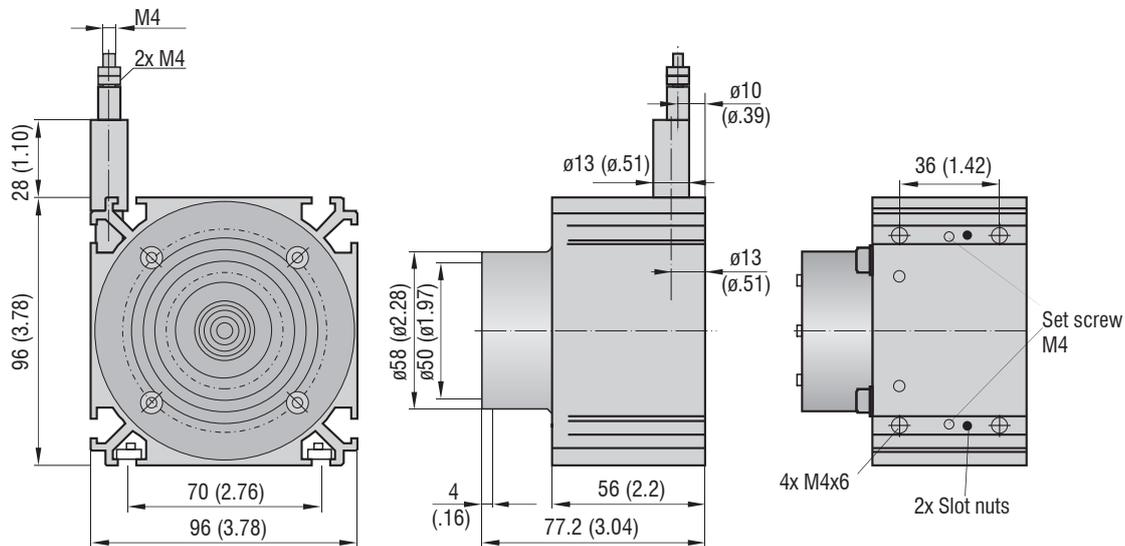

Fig. 5 WDS-P96-M series, dimensions in mm (inches, rounded off)
- P96 series: 4x M6 DIN 931 and 2 slot nuts, see Fig. 5.